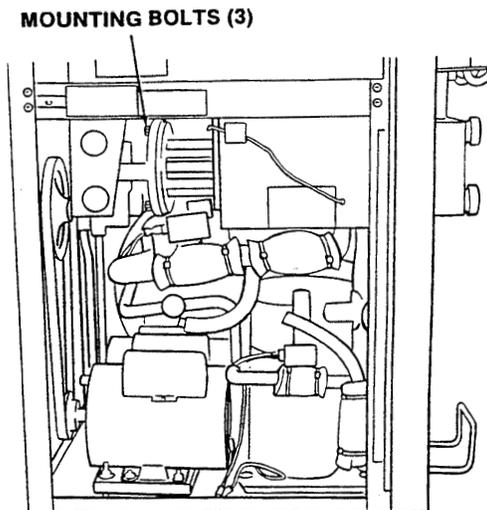

Figure 66. Speed Reducer Removal
3. Use a 9/16" box end wrench to remove the three bolts holding the speed reducer to the spacer (Figure 66).